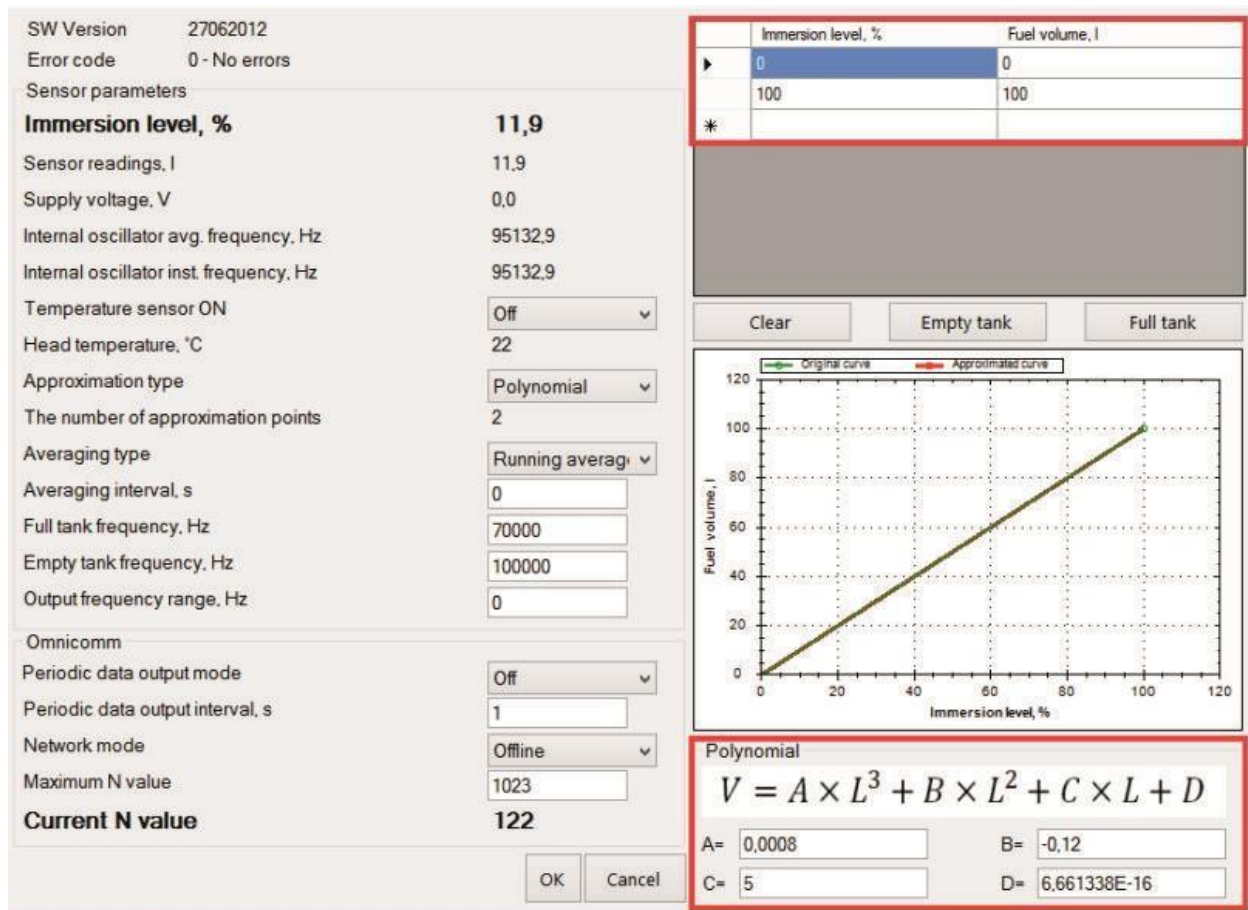

Figure 27 - The polynomial approximation
- To a polynomial type of approximation (Fig. 27) in the calibration table it is also necessary to input string raw data: % of a level of immersion and the corresponding value of the fuel volume in liters. Polynomial coefficients A, B, C, D will be automatically calculated and will appear in the "Polynomial" field.